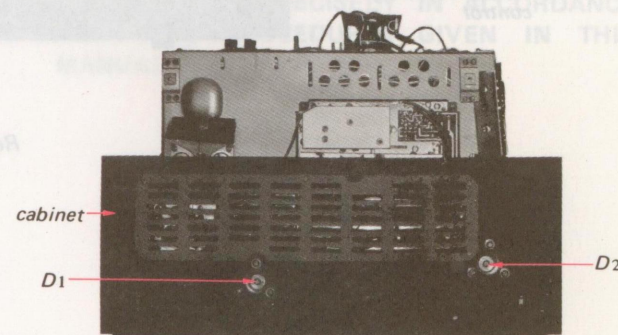

Fig. 2-5. Cabinet removal, Step 4
4. Remove the two screws labeled D1-2 in Fig. 2-5.